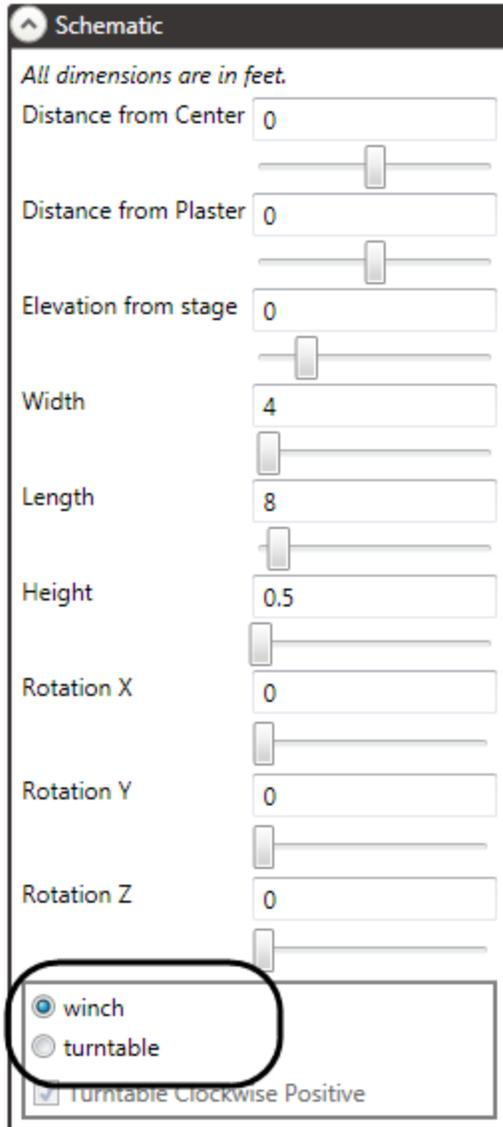

Figure 280
2. Scroll to the **Schematic** section of the **Stagehand Editing Pane** and make sure that winch is selected at the bottom of the list (Figure 280).